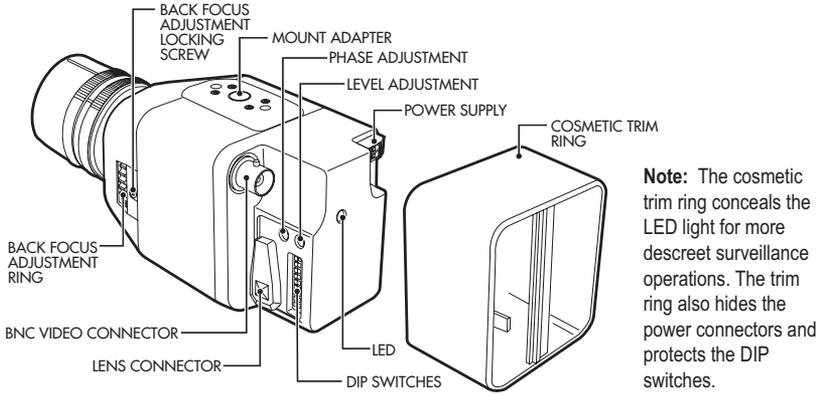

Figure 1. Camera Layout
- Remove the cosmetic trim ring from the back of the camera (refer to Figure 1). Set the lens mode selector switch on the side of the camera to AIV (auto iris video drive lens) or AID (auto iris DC drive lens). Refer to the *Switch Settings* section. Switch setting is determined by the type of lens used.
The camera is designed to operate from a 12 VDC or 24 VAC power supply. The power supply connections are shown in Figure 1. The LED on the back panel of the camera indicates that power is connected. Use only a Class 2 isolated power supply. See Specifications for power consumption.
1. Remove the cosmetic trim ring from the camera (refer to Figure 1). Thread cabling through the rear cover.
Set the lens mode selector switch to AID. Switch the ESC ON. Use an appropriate screwdriver to turn the lens level potentiometer (refer to Figure 1) fully clockwise. Next, slowly adjust the potentiometer counterclockwise until the optimum picture is obtained (video output level of 1V peak-to-peak). To focus, fully open the iris by covering the lens with a suitable neutral density (ND*) filter. Select the scene to be viewed. If the viewed scene is 6.5 feet (2 m) away or farther, set the lens focus to infinity (far). Use the back focus adjustment ring (refer to the Back Focus Adjustment section) and focus on the selected scene. Remove the ND filter and set the lens focus as required.